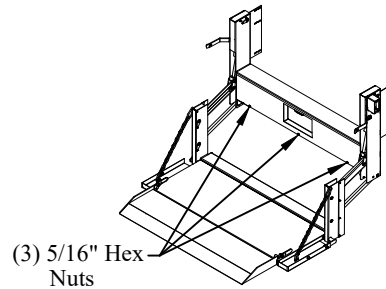

Figure 7: Box cover location.
3. **Remove** the box cover by removing the 5/16" hex head nuts (Figure 7).
1. **Remove** the box cover by removing the 5/16" hex head nuts (Figure 7).